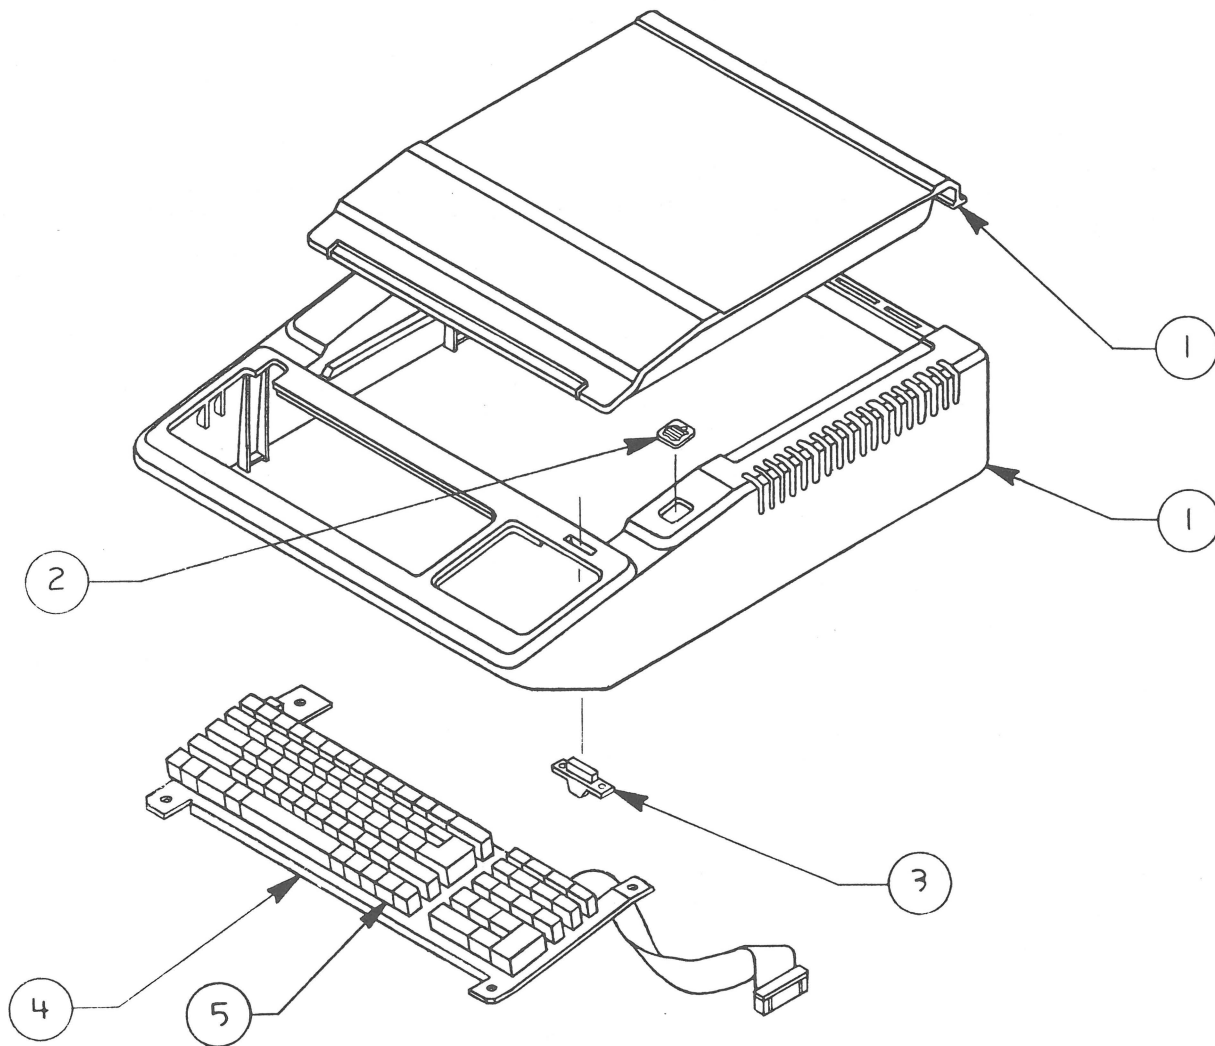

FIGURE 2
□ **PLATINUM CASE AND EXTENDED KEYBOARD (Figure 2)**